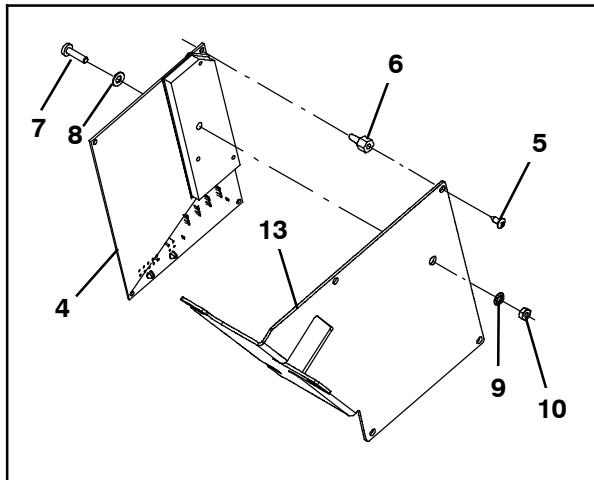

FIG. 12
38. Use four pan screws XXXX (5) to install the four circuit board supports (6) onto the side brush circuit board bracket (13). (Fig. 12)
39. Place the side brush circuit board (4) onto the four circuit board supports (6) and use one M4 pan screw (7), one nylon flat washer (8), one lock washer (9), and one M4 hex nut (10) to secure the circuit board to the side brush circuit board bracket (13). (Fig. 12)